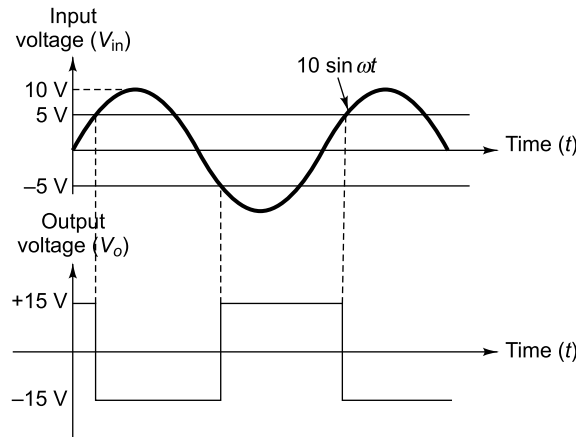

Fig. 5.78 Input and output voltage waveforms of schmitt trigger circuit
- The output voltage waveform is shown in Fig. 5.78.